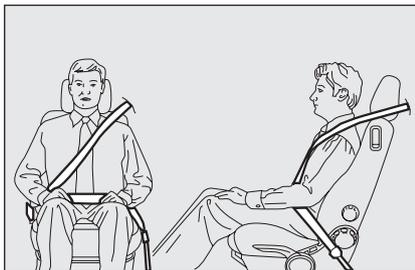

fig. 5
*The belt should not be twisted. The upper part should pass over the shoulder and cross the chest diagonally. The lower part should adhere to the pelvis and not the abdomen of the passenger, see fig. 5. Do not use any objects (pegs, stoppers, etc.) to keep the belts away from the body.*